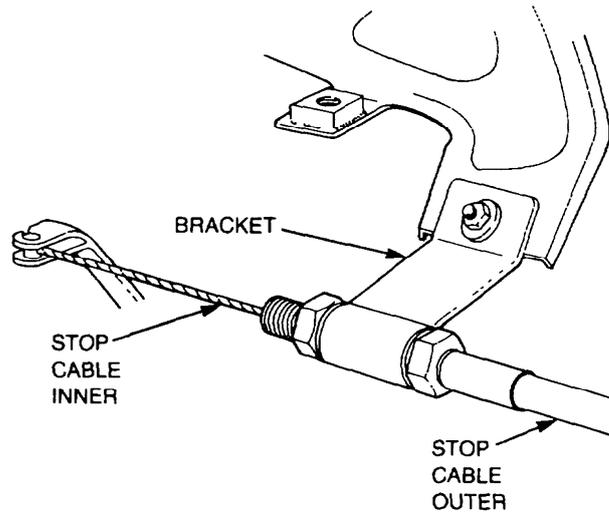

Figure 35 Stop Cable Mounting
- e. Remove the cable bracket from the inlet manifold (Figure 35).
- b. Install the cable bracket on the inlet manifold (Figure 35) and tighten the two bolts securely.